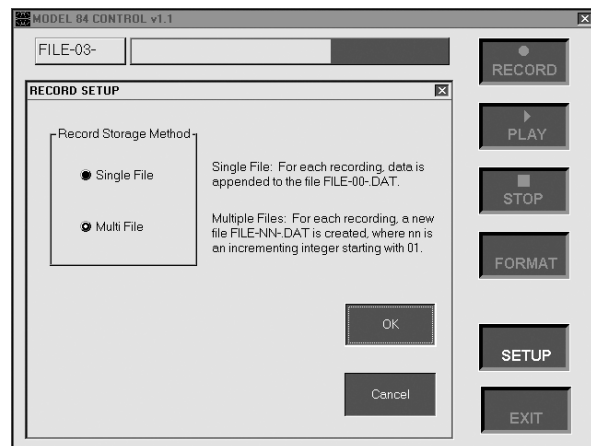

Figure 2-5 RECORD SETUP Screen
4. When the Record Setup screen (Figure 2-5) opens, choose either Single File or Multi - files mode.
The default state for Record Storage Method is Multi-files as this is the most commonly used mode. However, before recording, it is a good idea to select the RECORD SETUP Screen (Figure 2-5) and then Record Setup and make sure that Multi-files is selected.